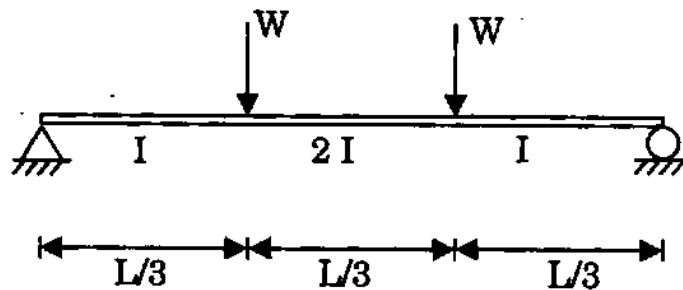

Figure 6
- (b) A simply supported beam carries two point loads W each at its one-third sections as shown in Figure 6. Determine the maximum deflection at its mid-span and slope at an end using the conjugate beam method. 15